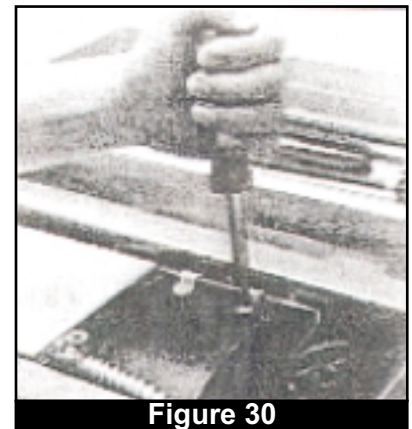

Figure 30
6. Remove the two screws securing the clips that attach the copper thermostat probe to the fan blower. Use a medium flathead screwdriver. (Fig. 30)